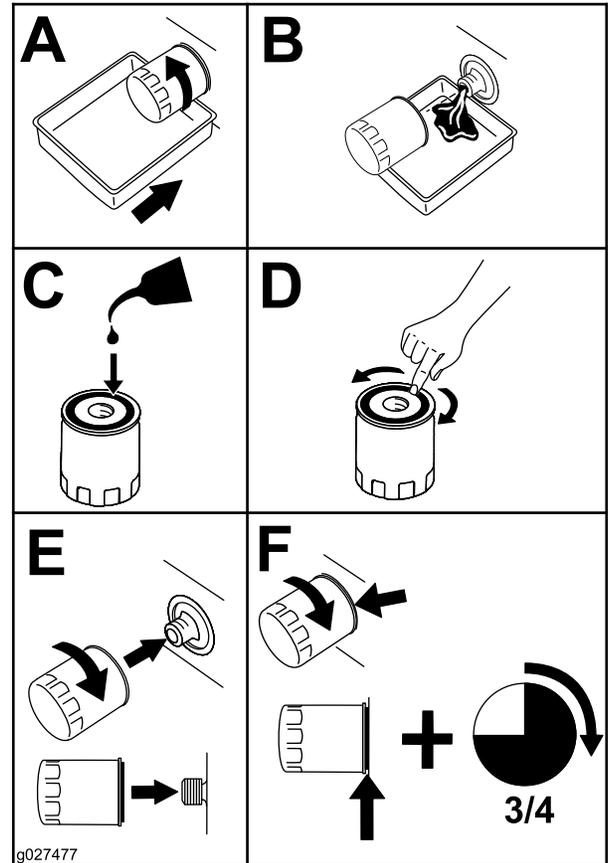

Figure 54
- Change the engine-oil filter (Figure 54).